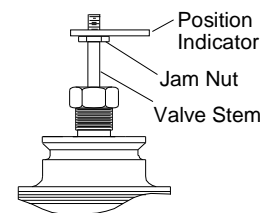

Figure 5: Installing Nut and Position Indicator
4. Place the position indicator on top of the jam nut as shown in Figure 5.